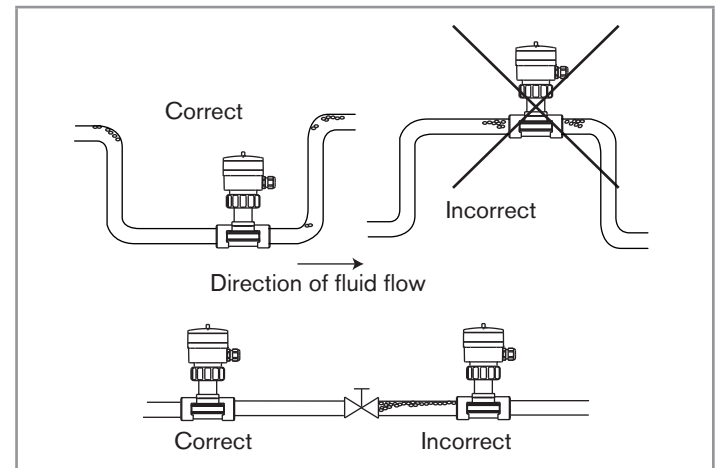

Fig. 7.5 Additional recommendations on installation
- For all types of measurement, respect the following additional assembly conditions to ensure that the measuring device operates correctly (fig. 7.5 and 7.6) and prevent the formation of air bubbles in the pipe and the pipe filling system on the measuring device.